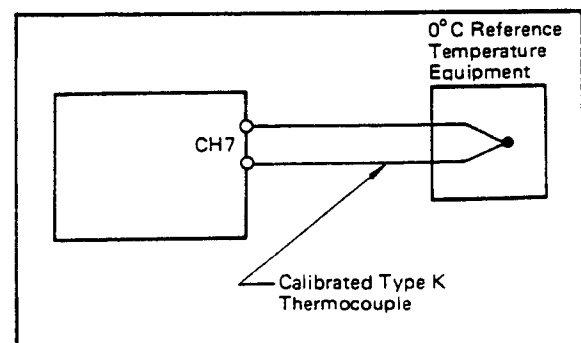

Figure 10-1.
- 2) Meanwhile, connect a calibrated Type K thermocouple between the instrument's channel 7 input terminals as shown in Figure 10-1, and set the range code corresponding to that channel to 13. Insert the junction of the thermocouple into the 0°C reference temperature equipment. At this time, avoid contact of the junction with the reference temperature equipment wall—insert the junction so that it is at least 10 mm from the wall.